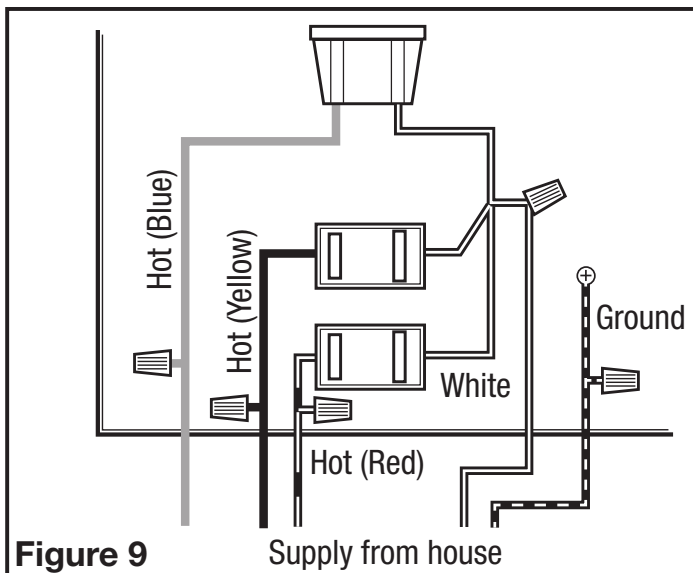

Figure 9
2. Connect the white wire from the house to the three white wires from the fan. Connect one hot (black) wire from the wall switch to the yellow wire from the fan (this is the fan control). Connect second hot (red) wire from the wall switch to the red wire from the fan (this is the heat control). Connect the third hot (blue) wire from the wall switch to the blue wire from the fan (this is the light control). Connect the ground wire from the house to the green wire from the fan (**Figure 9**). Use approved methods for all connections.